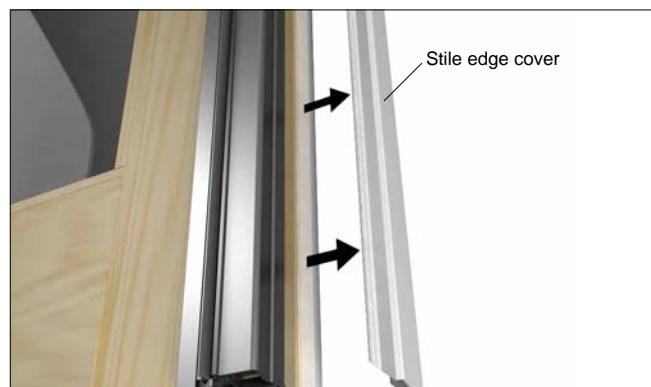

Figure 1
1. For replacement of the exterior interlock, remove the stile edge cover. Proceed to step two for removal of the interior interlock. See figure 1.